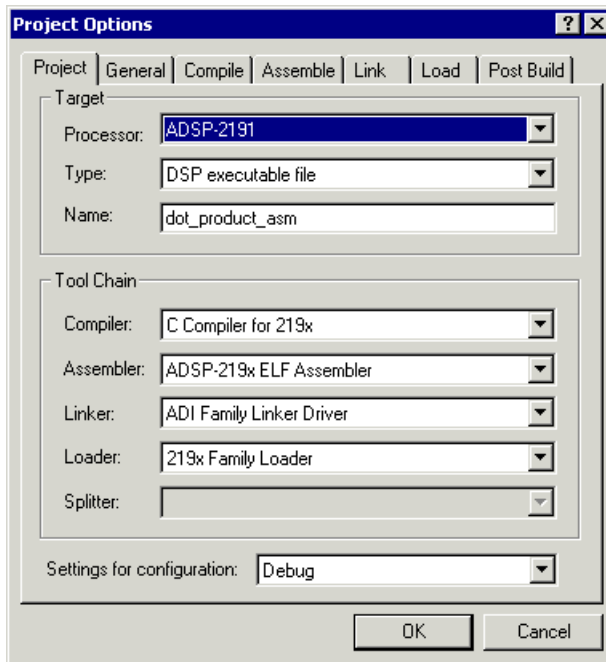

Figure 3-11. Project Options Dialog Box: Project Tab Page
The Project Options dialog box (Figure 3-11) appears.
6. On the Project tab page (Figure 3-11), specify the following values: